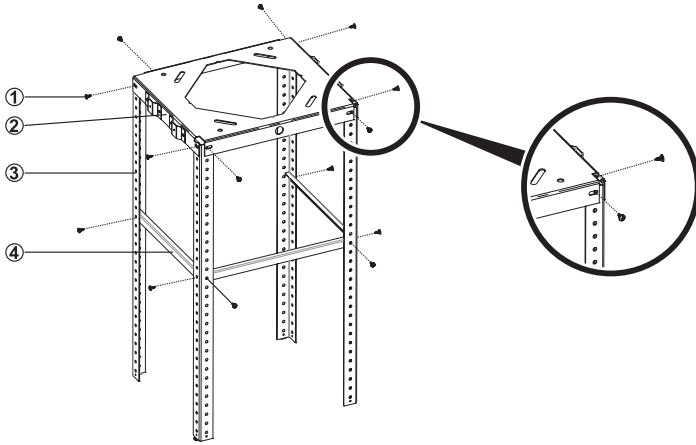

Figure 10: INSTALLATION AND PARTS SECTION 2
Figure. 10 a
- Mount the product hanger bars (3) to the ceiling hanger sheet (2) with 8 pieces of 3.5 x 9.5 rysb screw (1).Figure 10
- Mount the product hanger bars (3) to the ceiling hanger sheet (4) with 6 pieces of 3.5 x 9.5 rysb screw (1).
- Install air exhaust connection of the appliance. Figure 10 a